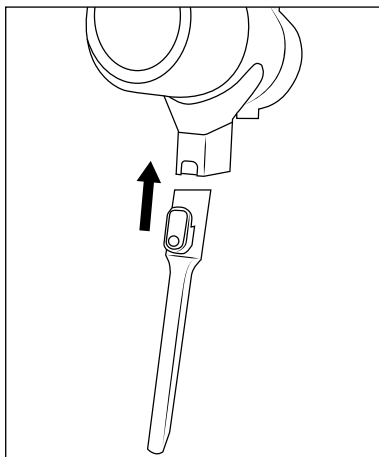

Fig. 13
- ◆ Push the accessory onto the suction pipe **23** or onto the suction opening of the appliance until it clicks into place (see Fig. 13). Make sure that the locking mechanism is in the correct position.